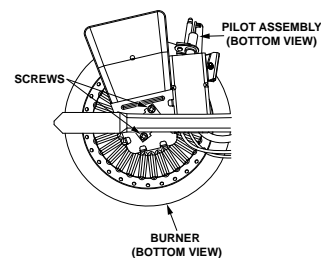

FIGURE 34.
1. Take off the burner by removing the two (2) screws located underneath the burner.
2. Check the burner to see if it is dirty or clogged. The burner may be cleaned with soap and hot water (Figure 34).
10. Reattach the burner and secure with the screws removed earlier. **NOTE:** See Figure 34 for correct burner orientation.